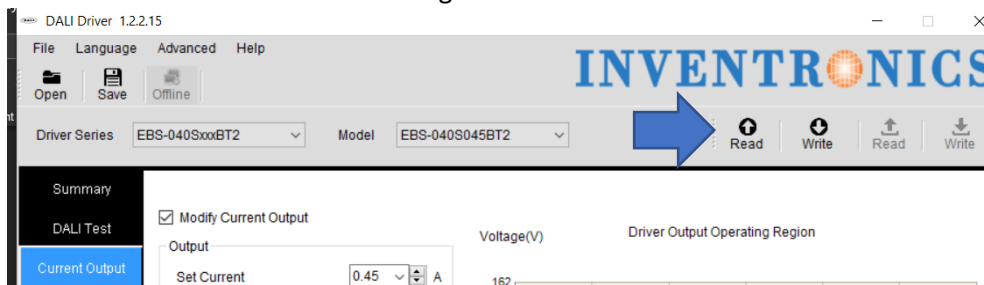

Figure 3: Read Driver
- a. Select “Read” as shown in Figure 3 below